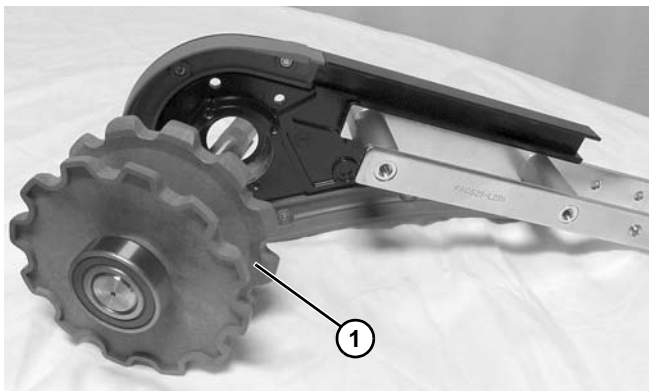

Figure 196
6. Remove spindle shaft assembly (Figure 196, item 1) from idler head plate assembly.